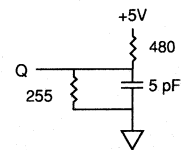

Fig. 2 OUTPUT LOAD EQUIVALENT
6. t^{HZCE}, t^{HZOE} and t^{HZWE} are specified with CL = 5pF as in Fig. 2. Transition is measured ± 500mV from steady state voltage.